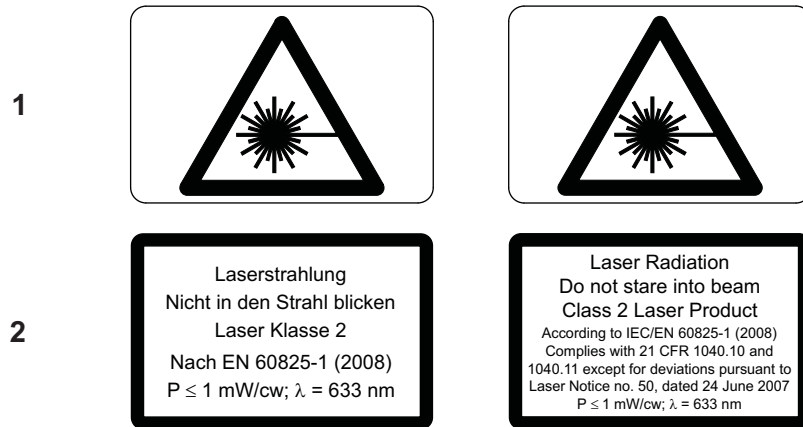

Figure 1.1: Laser warning labels for the PDV
The laser warning labels for the PDV are shown in FIGURE 1.1. For the countries in the European Union (EU), label 2 is affixed in the language of the customers country (see right-hand-side).